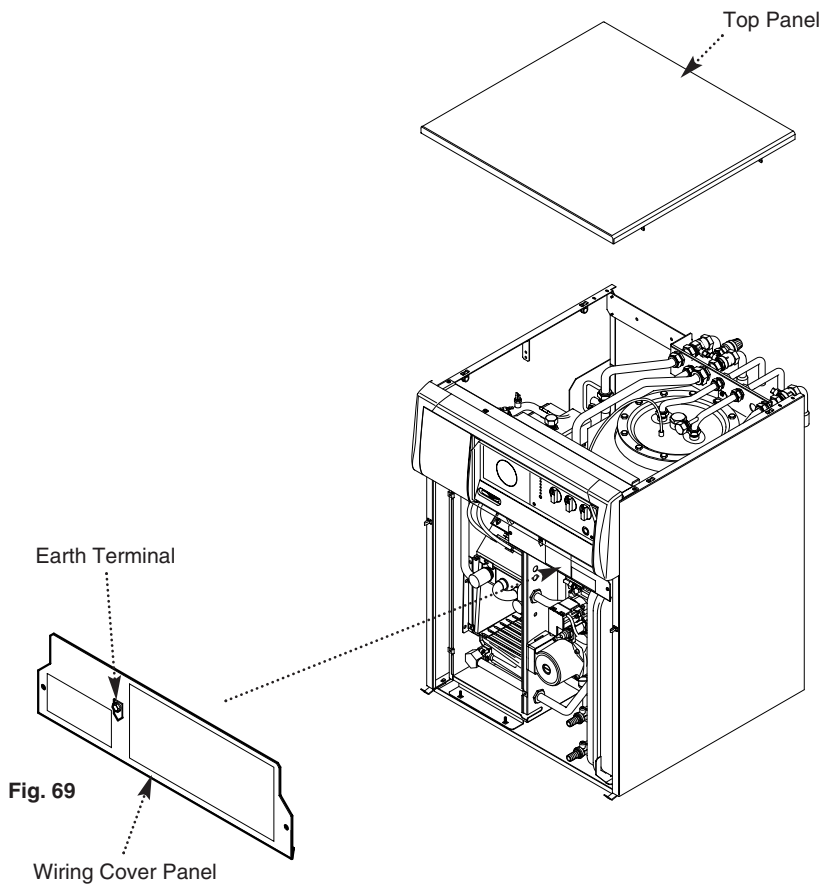

Fig. 69
11.14 Diverter Valve - Complete (Figs. 69 & 70)